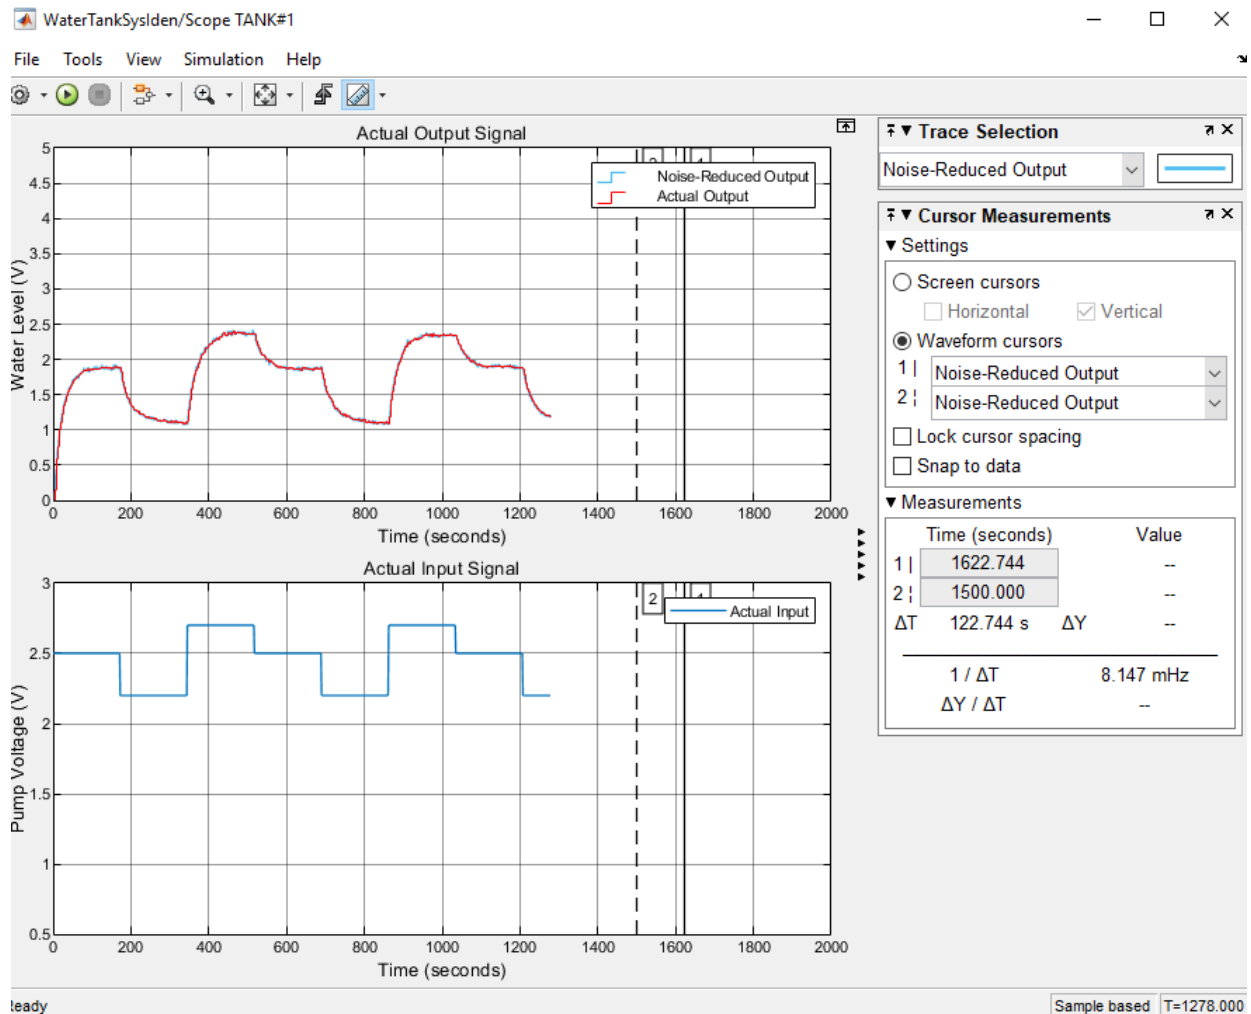

Fig. 4. Display of Scope block after running the Simulink model with suitable system settings. You can see the Cursor Measurements as well.
- b. Wait for at least two full sequences of input pulses to be sent to the system. Then, you can stop the program. You would have some results similar to what is shown in Fig. 4. The recorded data will appear in the Workspace with the name *LogData* in a Structure format. Moreover, the data is always saved in the default MATLAB directory (*Documents/MATLAB*). The name of the data file is *SysIdenData*. Each time you run and stop the Simulink model, a new data file will be generated with an incremented index. Thus, you would never lose any of your test results, i.e., for first run, the file name is *SysIdenData_0.mat*, second run *SysIdenData_1.mat*, and so on. The order for which the recorded data is saved in *LogData* is the same as the Lab 1 data that was given to you under the name *SysIdenData_StudentVersion.mat*. Therefore, you can extract the time vector, noise-reduced output, and input data as you did in Lab 1.